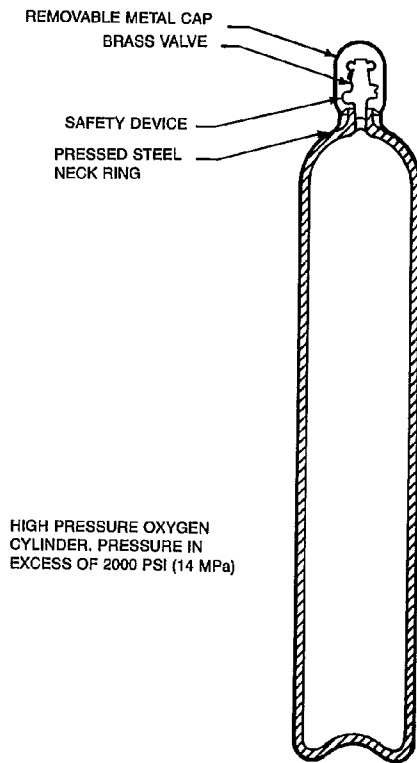

Figure 2—Oxygen Cylinder
3.1 Oxygen Supply. Oxygen of high purity (99.5 percent minimum) is supplied in individual cylinders of various sizes (Figure 2) or may be distributed by pipeline from manifold cylinders or bulk liquid tanks. Oxygen from on-site oxygen generators, while of a lesser purity, may be used for flame cutting in some applications. Always call oxygen by its proper name, "OXYGEN". It should never be called "AIR". Regardless of the source, be sure that sufficient pressure and volume are available for the work to be done. Consult cutting apparatus manufacturer's literature for pressure and volume requirements. **CAUTION:** Oxygen supports combustion! Improper use